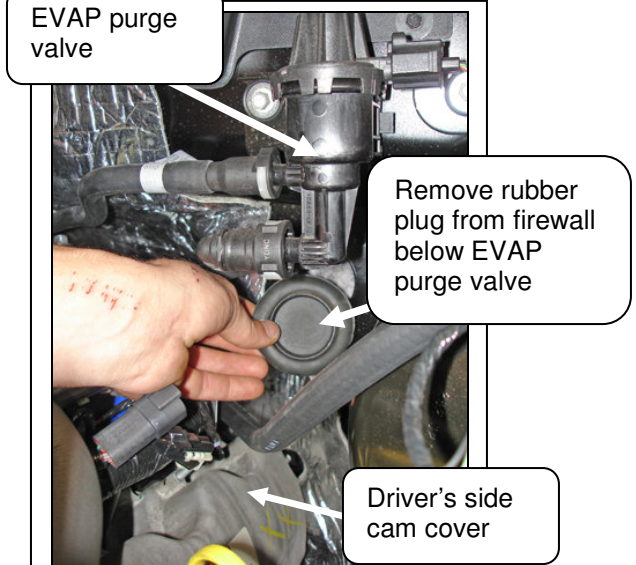

Figure 1
1. Remove the rubber plug from the engine room wall below EVAP purge valve (see Figure 1).